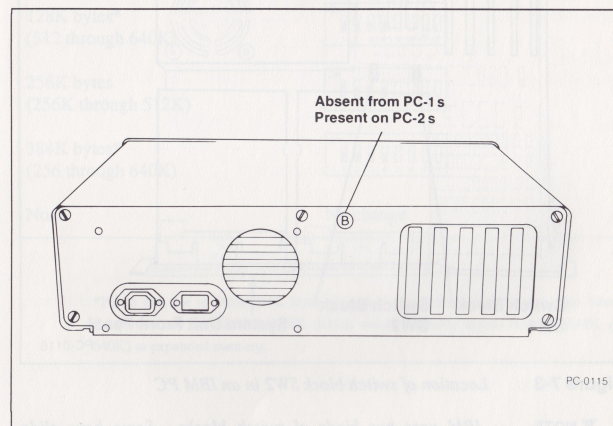

Figure 7-2 Distinguishing between PC-1s and PC-2s
- 2 If your computer is a PC, you must find out if it's a PC-1 or a PC-2. PC-2s have the letter "B" stamped on the back panel of the system unit, whereas PC-1s don't. Figure 7-2 shows where to find the "B."